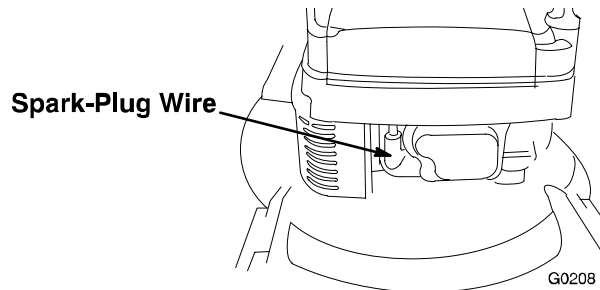

FIGURE 8
Before each use, ensure that the oil level is between the Add and Full marks on the dipstick (Fig. 8).
1. Connect the wire to the spark plug. See Figure 8.